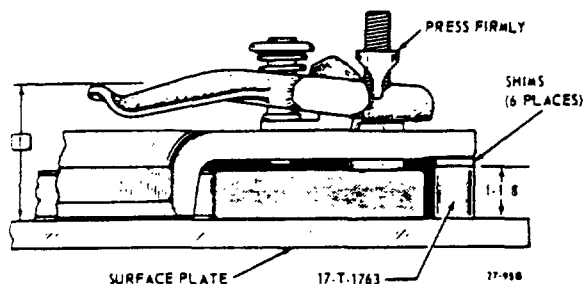

Figure 5-19. Wear Check
Place the pressure plate assembly and cover (without springs) into position as shown in Figure 5-19, making sure that shims of the correct thickness (.250) are inserted between cover and spacer (17-T-1763). Install each release lever and while pressing firmly on the fulcrum, measure distance (1) inboard end of lever is raised above cover. Correct height is 3-11/32 inches. Remove any interference that prevents obtaining this dimension.